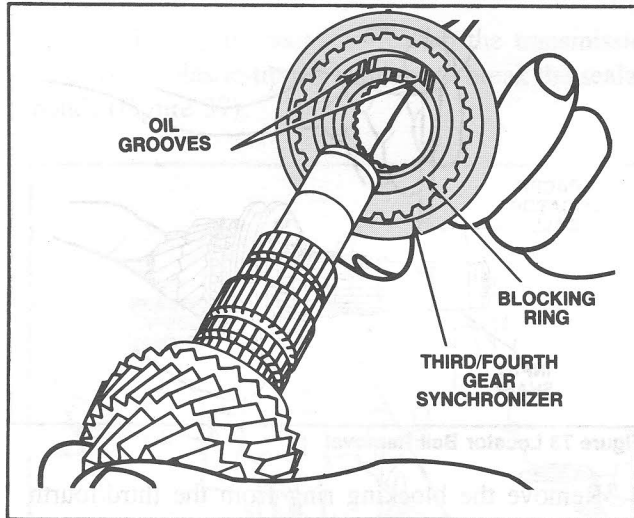

Figure 76 Synchronizer Removal
6. Remove the third/fourth gear synchronizer and blocking ring. (Figure 76).